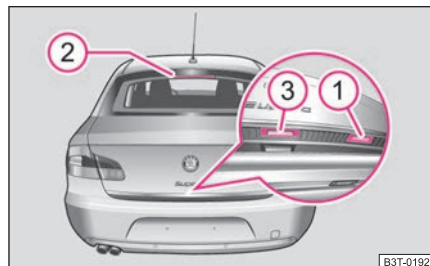

Fig. 31 Handle of boot lid
- Press the handle ① ⇒ fig. 31 on the bottom edge of the boot lid.
- You must wait until the brake light ② in the rear window flashes twice.
- Press on the handle ③ and at the same time raise the boot lid. ▶